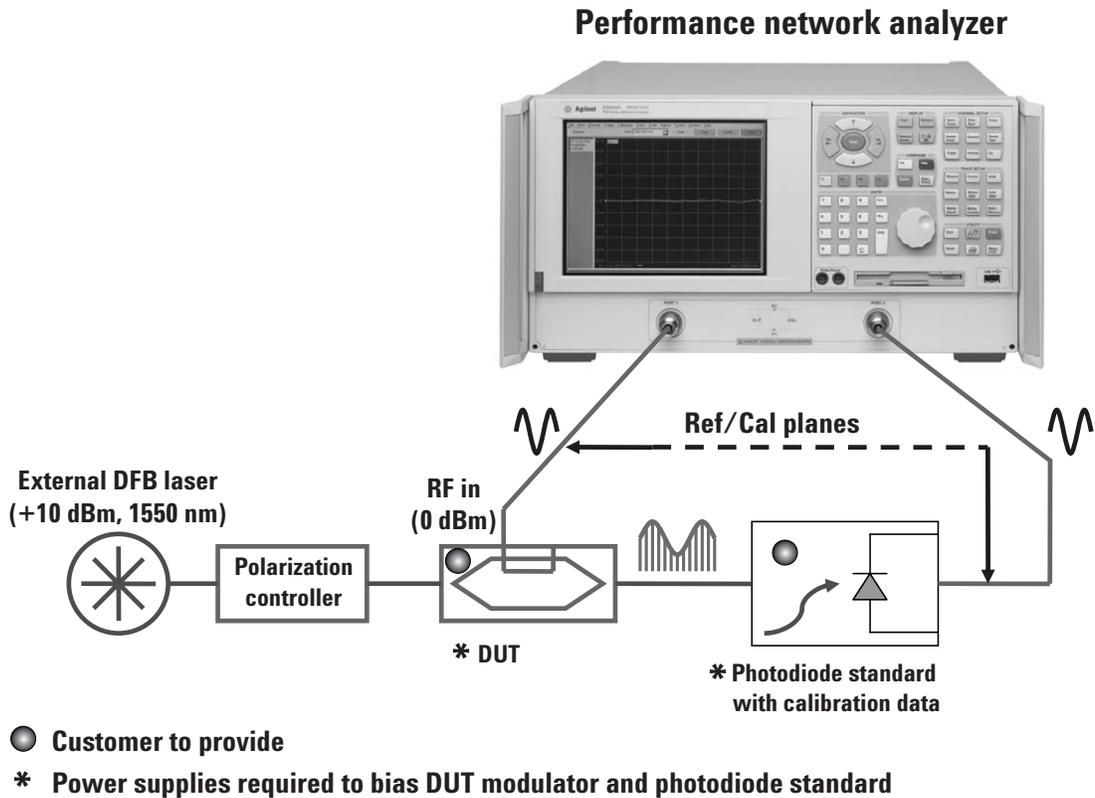

Figure 3. Modulator measurement
2. To measure the E-O (modulator), connect the cables from the analyzer to the modulator (port 1) and to the photodiode (port 2). See Figure 3 for details.